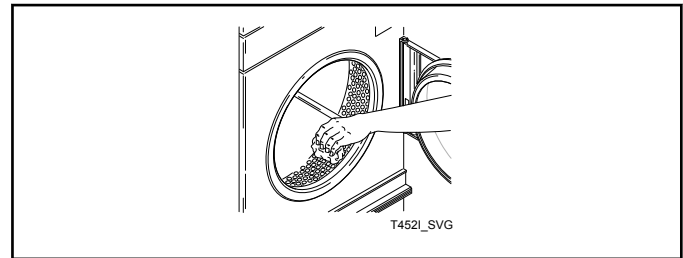

Figure 14
10. Wipe out the cylinder using an all-purpose cleaner or detergent and water solution. Refer to *Figure 14* .